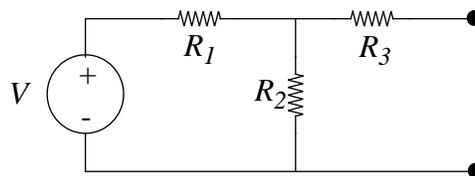
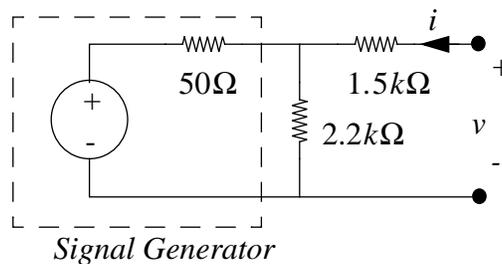

Figure 1: source-resistor network for Pre-Lab Exercises 1-1 and 1-2.
Figure 4: experimental source-resistor network.
- (1-1) Determine the Thevenin and Norton equivalents of the network shown in Figure 1 as viewed at its port.
- (1-1) Construct the network shown in Figure 4. However, before connecting the signal generator to the remainder of the network, set its output voltage to a constant 5 V, and check this output with the multi-meter. Note that the network is the same as that shown in Figure 1, with the function generator serving as both the voltage source and resistor R_1 . *Note: The function generator has two modes for the source resistance— 50 Ω and High Z. Make sure that your function generator is set to the High Z mode. Press [Shift] and then [Enter] to get to the menus. Using the dial, switch to menu D, the SYS MENU. Next press the down arrow twice. Use the dial to switch to HIGH Z. Then press [Enter] to save.*
- (1-1) Refer to your measurements from In-Lab Exercise 1-2; note that these measurements are the Thevenin equivalent voltage and Norton equivalent current of the network in Figure 4. From these measurements, compute the Thevenin/Norton equivalent resistance of the network. Compare the experimental Thevenin/Norton parameters to their corresponding values from Pre-Lab Exercise 1-2, and explain any discrepancies. Hint: consider measurement error and resistance variation.